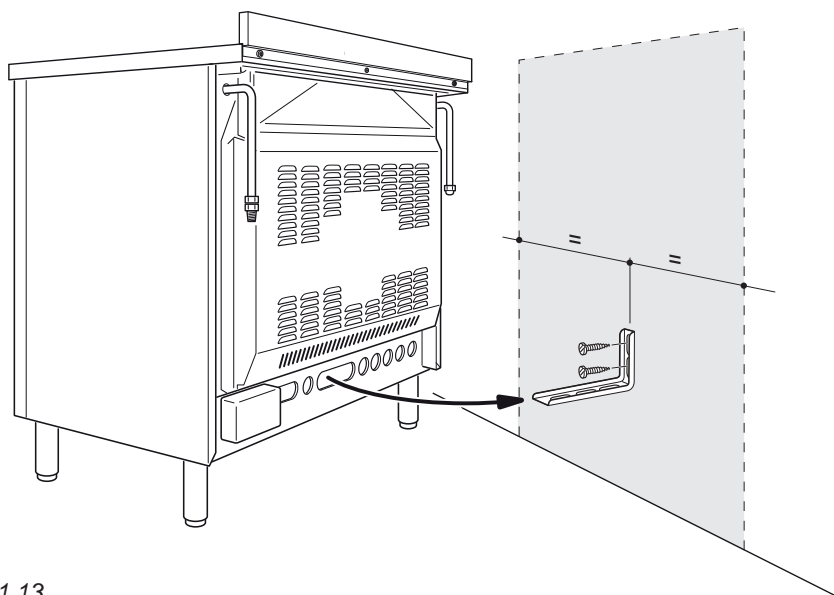

Fig. 1.13
1. After you have located where the cooker is to be positioned, mark on the wall the place where the 2 screws of the anti-tilt bracket have to be fitted. Please follow the indications given in fig. 1.13.
4. Move the cooker to the wall and adjust the height of the anti-tilt bracket so that it can engage in the slot on the cooker's back, as shown in fig. 1.13.